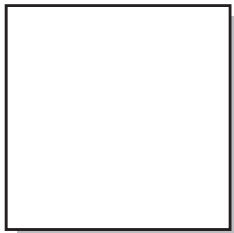

Fig.27
- Unplug power cord and wrap around accessories holder using the extension tabs at the 3:00 % 9:00 position and the L-shaped power cord holder/tab located at the 6:00 position. (Fig.27)